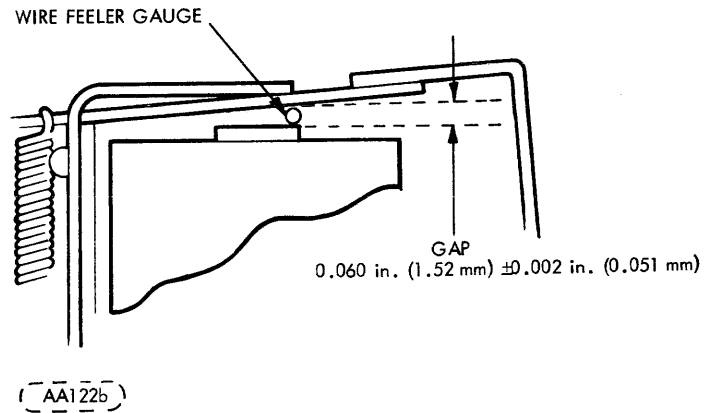

FIGURE 6-14. SOLENOID ADJUSTMENT
- c. Using a 0.060-in. (1.52 mm) wire feeler gauge, insert the feeler gauge in the gap between the underside of the clapper and the coil core. (See Figure 6-14.)